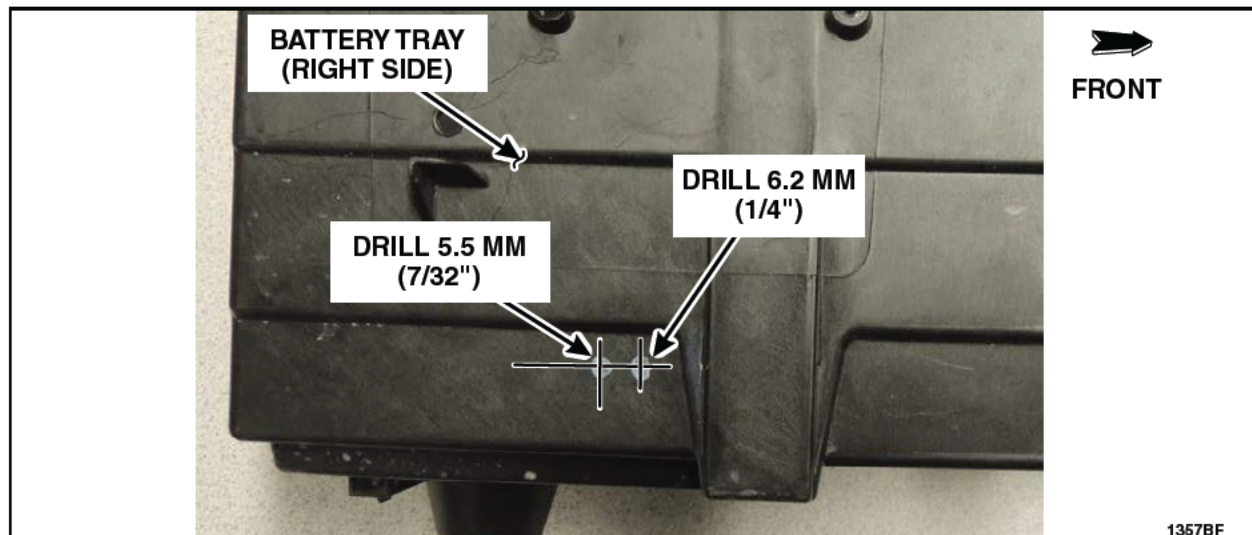

FIGURE C3
3. Using the appropriate size drill bit for the two (2) remaining marked locations on the battery tray, 5.5 mm (7/32") and 6.2 mm (1/4") as indicated in Figure C3, drill the two (2) holes. See Figure C3.